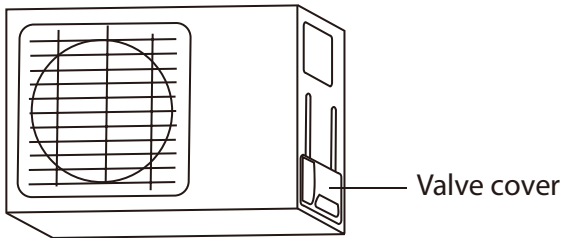

Fig. 6.9
1. Unscrew the cover from the packed valve on the side of the outdoor unit. (See Fig. 6.9 )